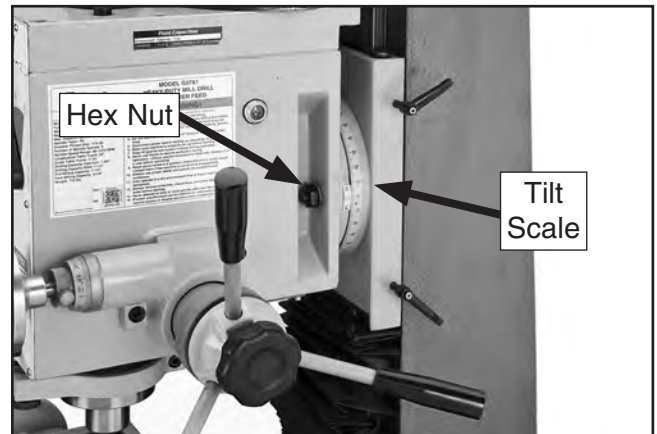

Figure 16. Tilt locking hex nut (one on each side of head).
2. Loosen the three locking hex nuts (see **Figures 16–17**).
3. Using scale shown in **Figure 16** as a guide, swivel headstock and retighten the three hex nuts to secure it.